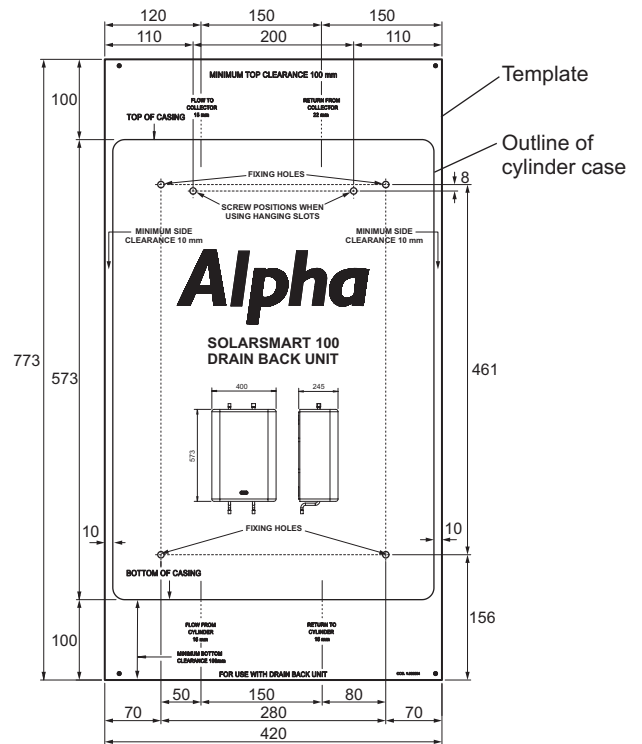

Fig. 15
4.5 FIT THE DRAIN BACK UNIT (DBU) - Figs. 15, 16, 17 or 18